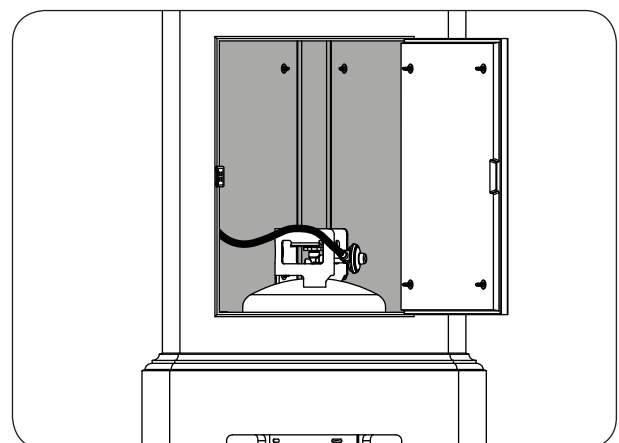

Fig. 29-3 L.P. Cylinder placement
5. The propane cylinder (not included) is to be located inside the base of the unit, via the storage door opening (see Fig. 29-3).